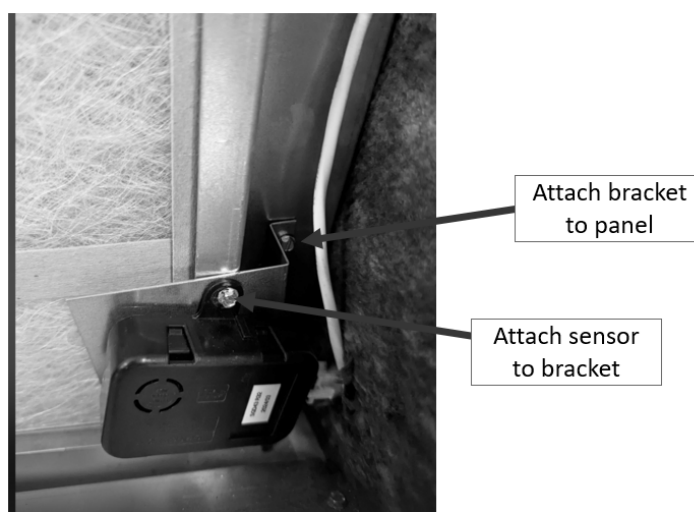

Figure 1 - Sensor Mounting
4. Mount the new sensor onto the bracket using the two existing screws. CAUTION: Do not screw into the coil or tubing. (Refer to Figure 1.)